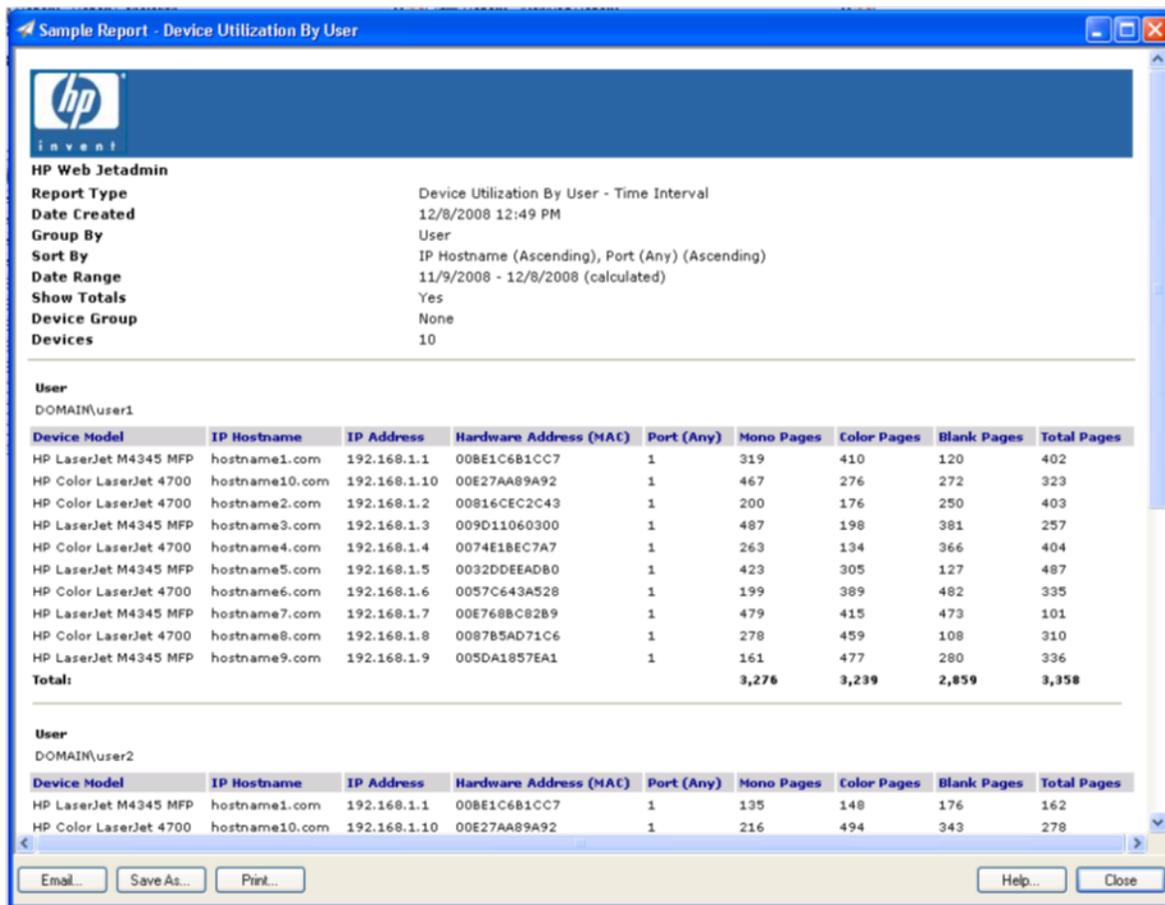

Figure 28: Device Utilization By User report
- Under **Report Data**, select the specific data relating to **Device Utilization by User** that appears as columns in the report (Figure 28). The page counts are specific to the displayed **User** and the **Date Range** selected. The following are some of the more frequently used job types and media sizes.